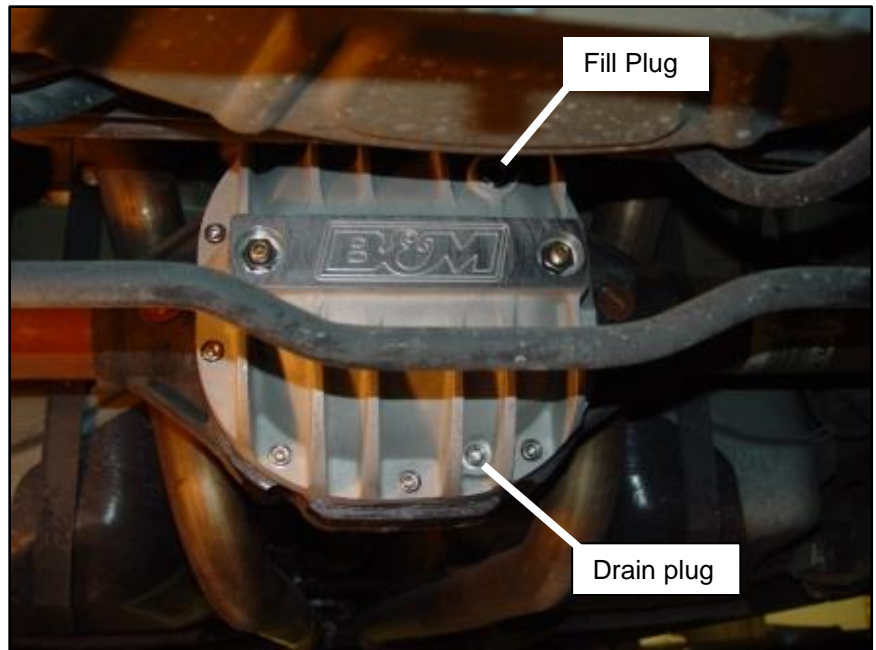

Figure 5
STEP 16. Install the supplied magnetic 1/4" NPTF drain plug on the **B&M Cast Aluminum Rear End Cover** and tighten (See Figure 5).
Cover fill plug hole (See Figure 5). Add gear oil until oil runs out of the axle housing fill hole.